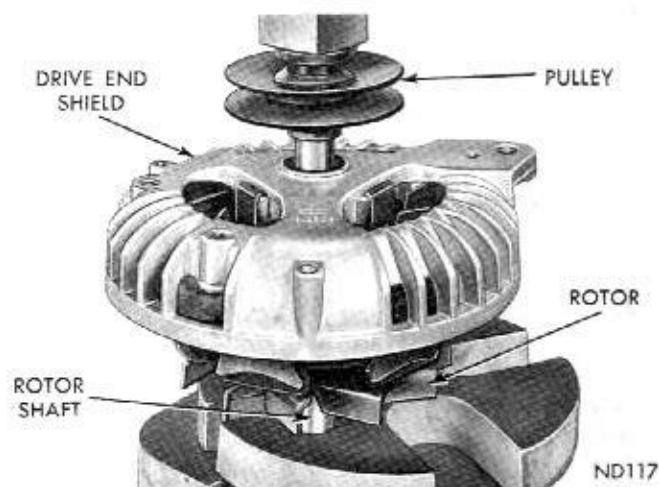

Fig. 32—Installing Alternator Pulley
(9) Install pulley on rotor shaft. Shaft of rotor must be supported in a manner so all pressing force is on pulley hub and rotor shaft (Fig. 32). **Press pulley on rotor shaft until pulley contacts inner race of drive and bearing. Do not exceed 6800 pounds pressure. Do not hammer.**